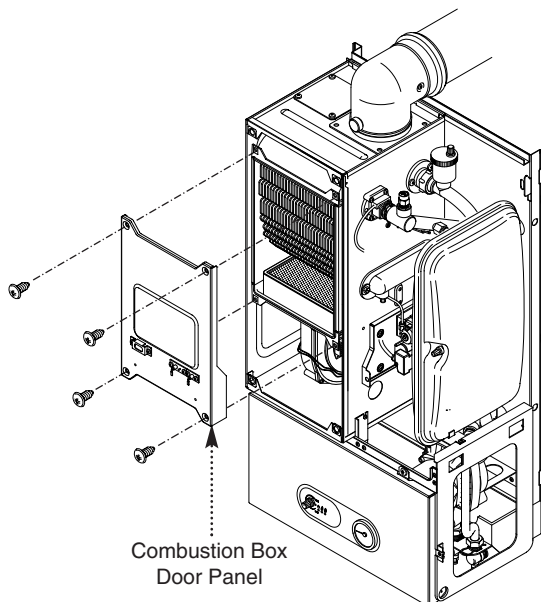

Fig. 40
8. Undo the four screws securing the combustion box door and remove the door (Fig. 40).